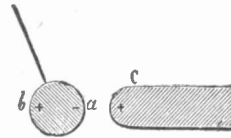

FIG. 104. ILLUSTRATING ELECTRO-STATIC INDUCTION
brought near it. Electric attraction is invariably preceded by electrostatic induction. Suppose, for example, Fig. 104, (C) is an insulated body containing a positive charge, and that (ab) is a movable body suspended by an insulating thread. On the approach of (C), induction occurs in the movable body, a negative charge being produced on the side nearest (C) at (a) and a positive charge on (b), the side furthest from (C). Under the influence of the opposite charges the movable ball is drawn towards (C). If there has its negative charge neutralized, and becomes charged with the same kind of electricity that exists in (C), i. e., positive electricity, is now repelled.